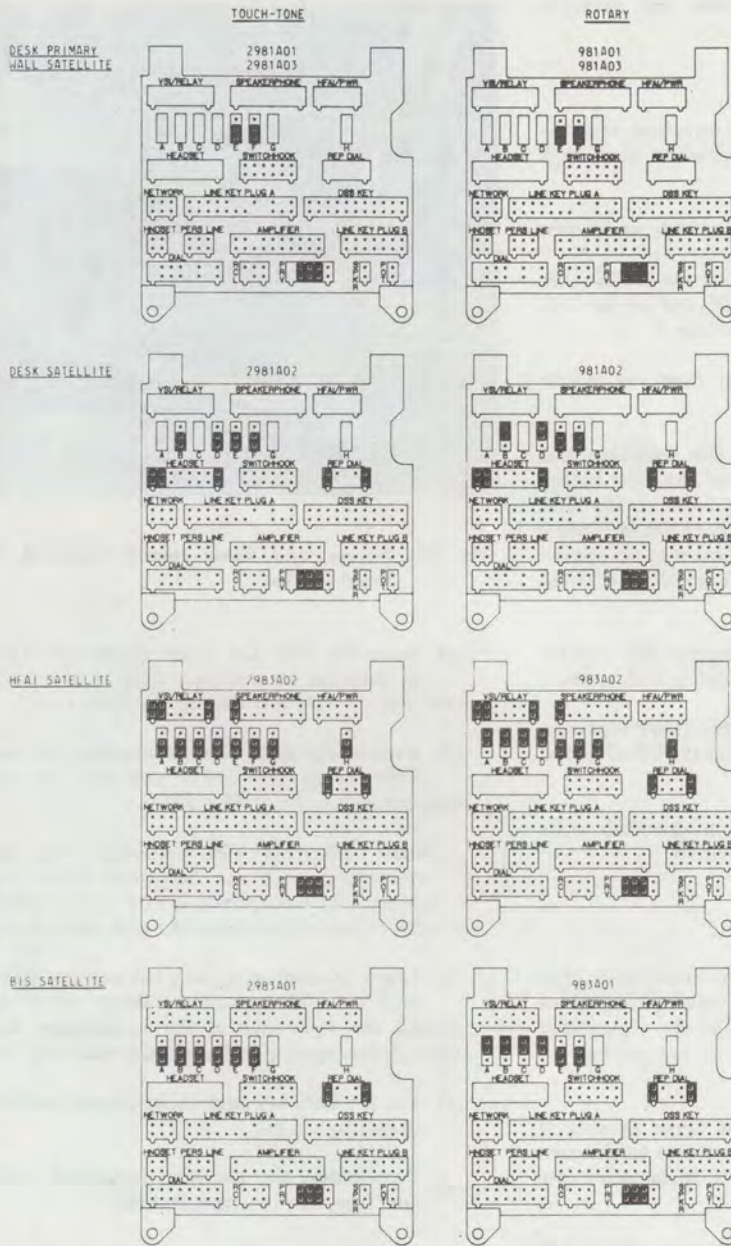

Fig. 37—Interconnect Fields Showing Factory Positions of Shorting Bars
- (d) Remove the three factory-installed shorting bars from the PRV position in the interconnection field (Fig. 37).
If the privacy feature is ever removed from a set, be sure to restore the shorting bars removed in (d) to their original factory positions (Fig. 37). If the privacy feature is removed from all sets in the system, remove the PRIV RLS designation tabs from all sets.
- At switches E and F on the interconnect field (Fig. 37), move the shorting bar from the lower position to the upper position.